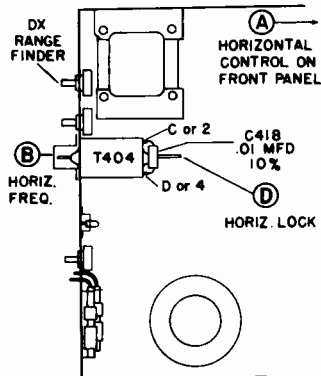
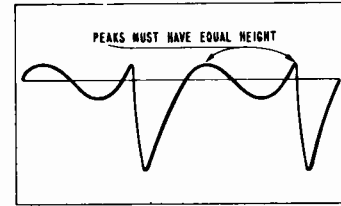

Figure 11. Bottom View of Chassis Showing Horizontal Sync Adjustments.
Figure 12. Horizontal Oscillator Waveform.
2. Connect oscilloscope high side through a **10 mmfd. capacitor** to terminal marked "C" or "2" on the horizontal oscillator transformer T404 (see figure 11). It is important to use short leads and a very low capacity capacitor (at least 10 mmfd.) to avoid loading the circuit and thus distorting the waveform.
4. Adjust the **Horizontal Lock slug (D)** (see figure 11) until the oscilloscope waveform pattern appears as in figure 12. The rounded and pointed peaks of the waveform must have equal height. The picture must be kept in sync to obtain the proper oscilloscope waveform pattern. Keep the picture in sync by adjusting the **Horizontal Frequency adjustment (B)**. If the picture still will not sync, check for a defective tube, components, or wiring, before continuing further.